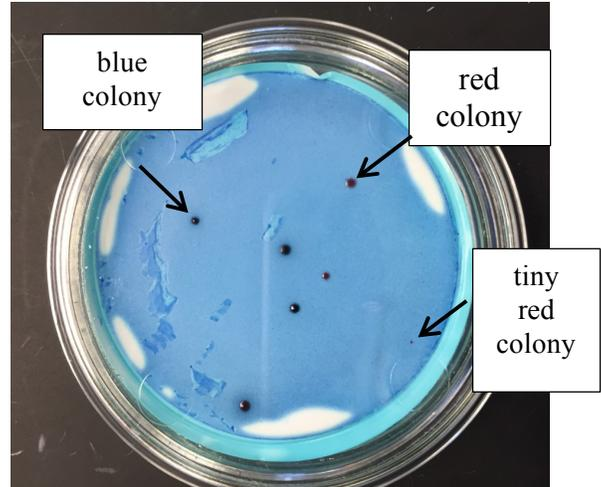

Figure 1. Picture of membrane filter plate after incubation showing colonies.
5. You should see some blue or red dots on your plate if you had any *E. coli* or total coliforms in your sample. Figure 1 shows a plate with both blue and red colonies, as you can see they are small dots on the membranes.